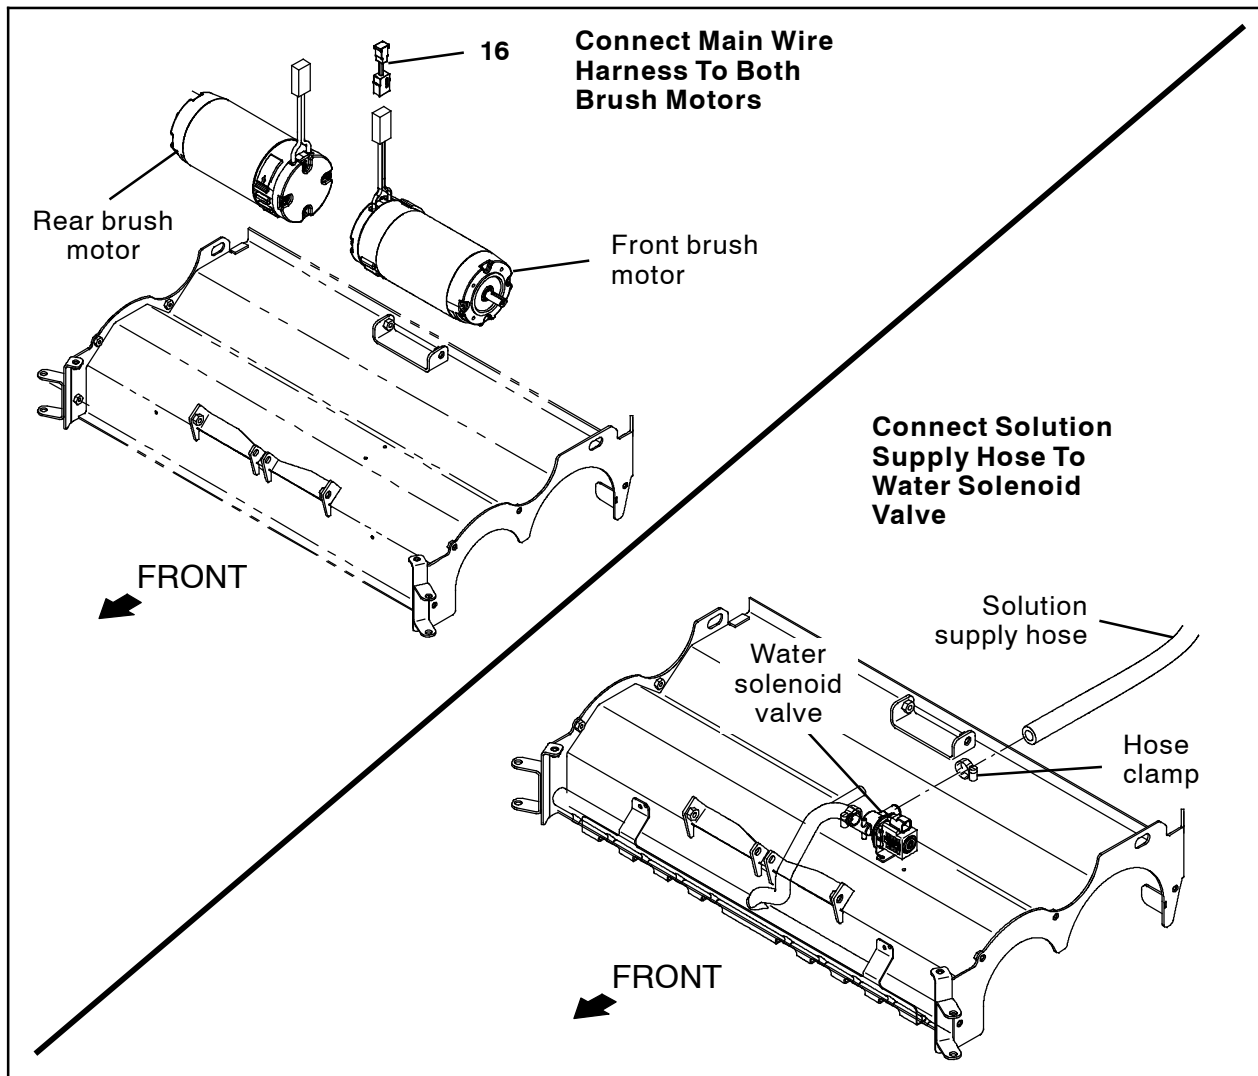

FIG. 2
10. Connect the wire harness adapter (17) to the front brush motor. (Fig. 2)
12. Connect the main wire harness to both brush motors. (Fig. 2)
13. Use a hose clamp to connect the solution supply hose to the water solenoid valve on the scrub head. (Fig. 2)